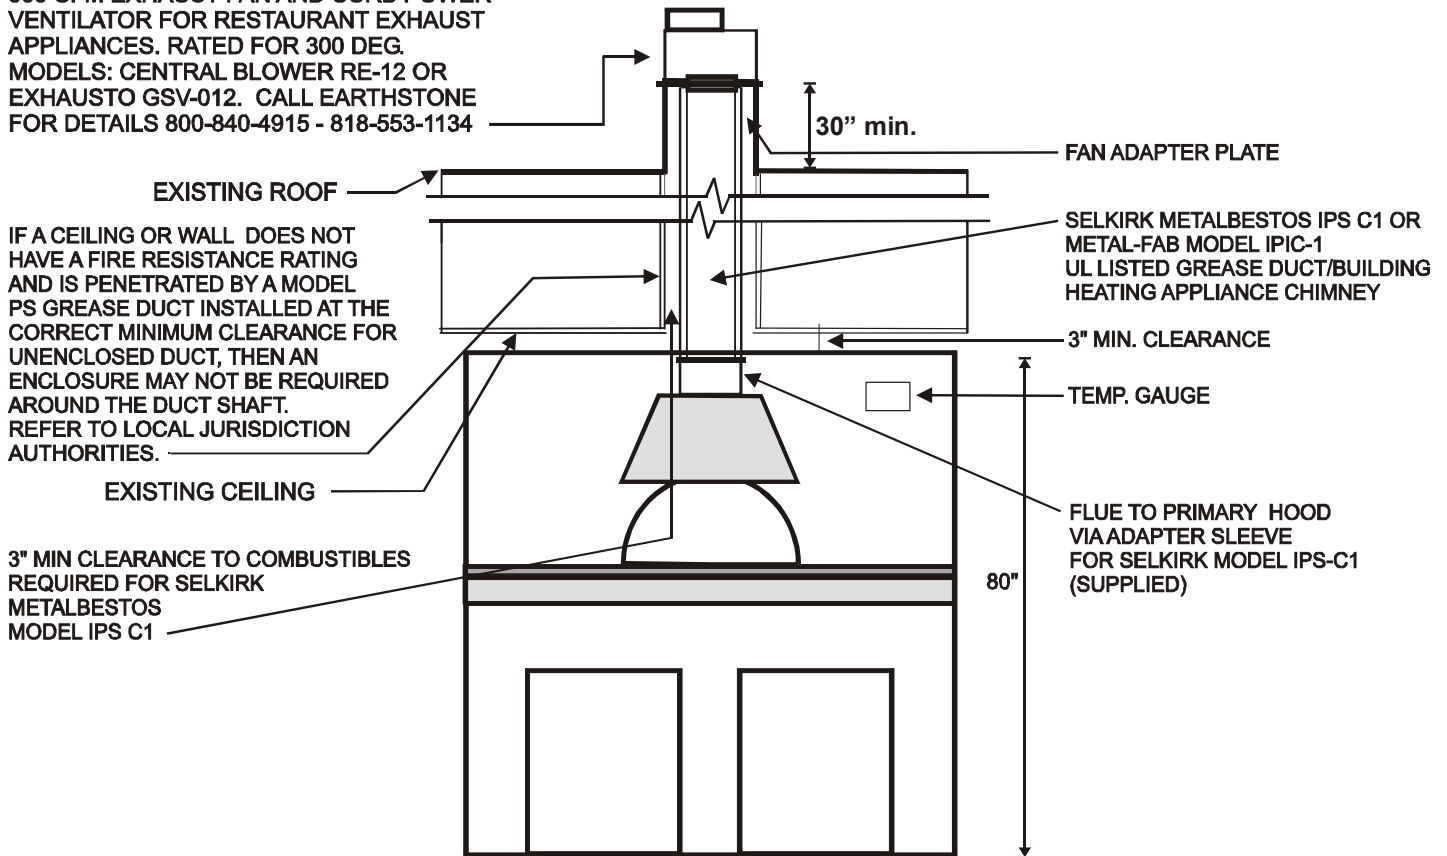

FIGURE 18
1. A U.L. listed Grease Duct/Building Heating Appliance Chimney may be connected to the opening in the primary hood of the oven. Refer to Fig. 18, pg. 7. For specific installation requirements refer to Selkirk Metalbestos Model PS and IPS Grease Duct Installation Instructions or Metal-Fab IPIC Installation Instructions.